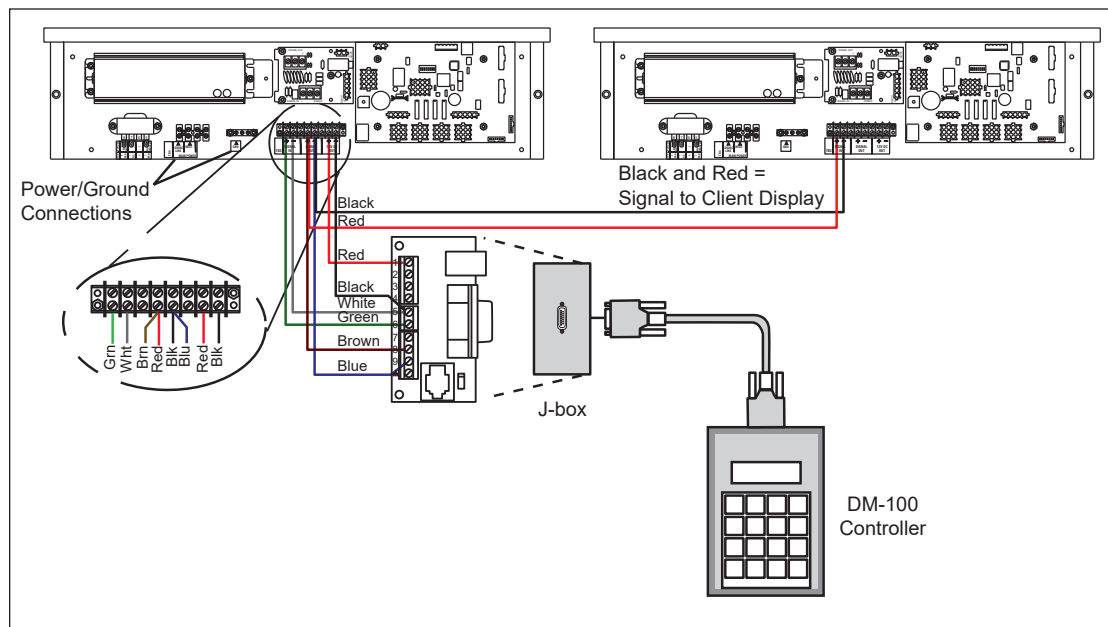

Figure 9: Direct Connection from Outdoor Location
4. Connect the signal wire from the J-box to the driver enclosure. Refer to **Figure 9** and the table. **DWG-938300** and **DWG-938369** provide more information.